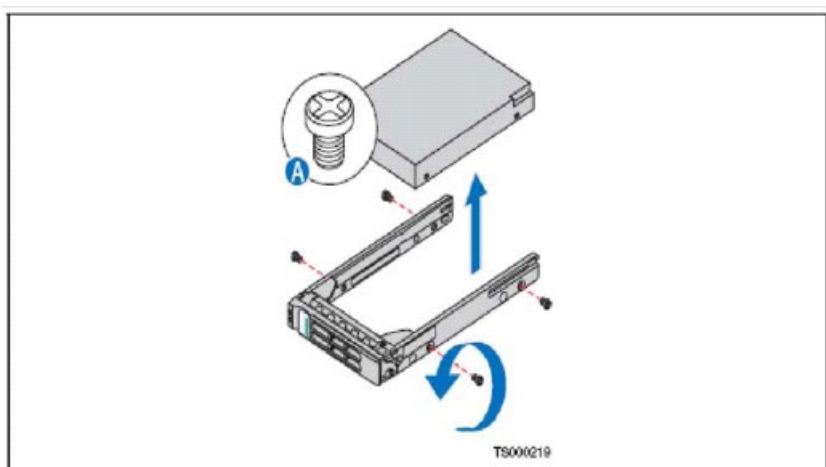

Figure 23: Removing a Hard Drive from the Drive Tray
4. Remove the hard drive from the drive tray by unfastening the four screws (Inset A in *Figure 23: Removing a Hard Drive from the Drive Tray*) that attach it to the drive tray. .